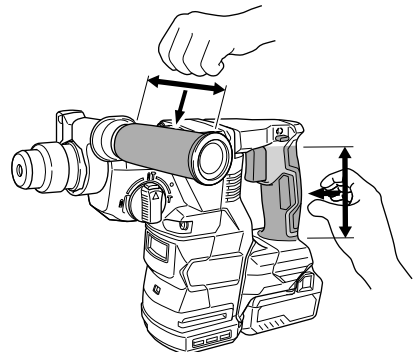

Fig. 1
21. Make sure to securely hold the tool as shown in Fig. 1 during operation.